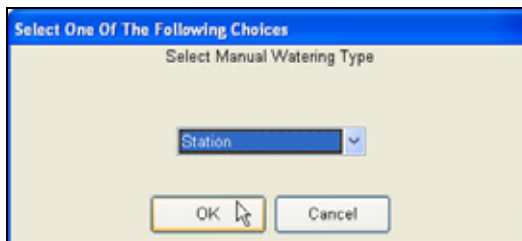

Figure 7.1.2
2. Using the **Manual** key, Select Manual Watering Type / Station. Click **OK** (Figure 7.1.2)